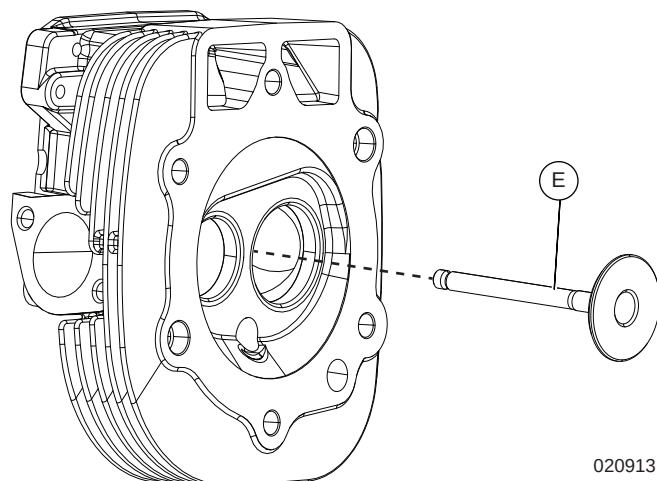

Figure 8-4. Install Intake Valve into Cylinder Head
2. See Figure 8-4. Apply assembly lube to the tip of intake valve (E) and insert valve into valve guide from combustion chamber side. Take care to not damage seal.